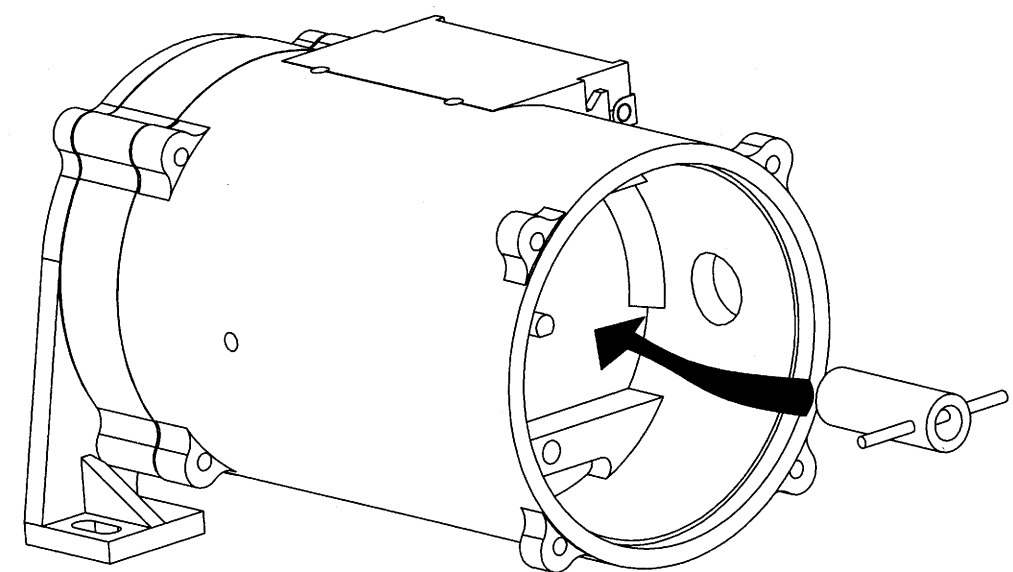

FIG.1
- SLIDE THE SMALL BEARING OF THE WINDING FIXTURE, 9610021-0000 ONTO THE MAIN SHAFT OF THE TRANSDUCER. (FIG.1)